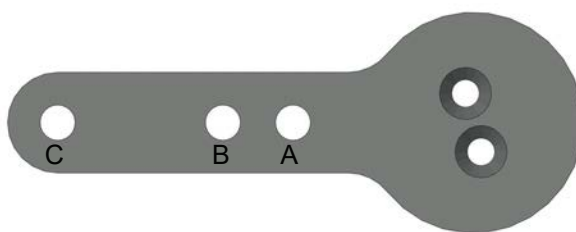
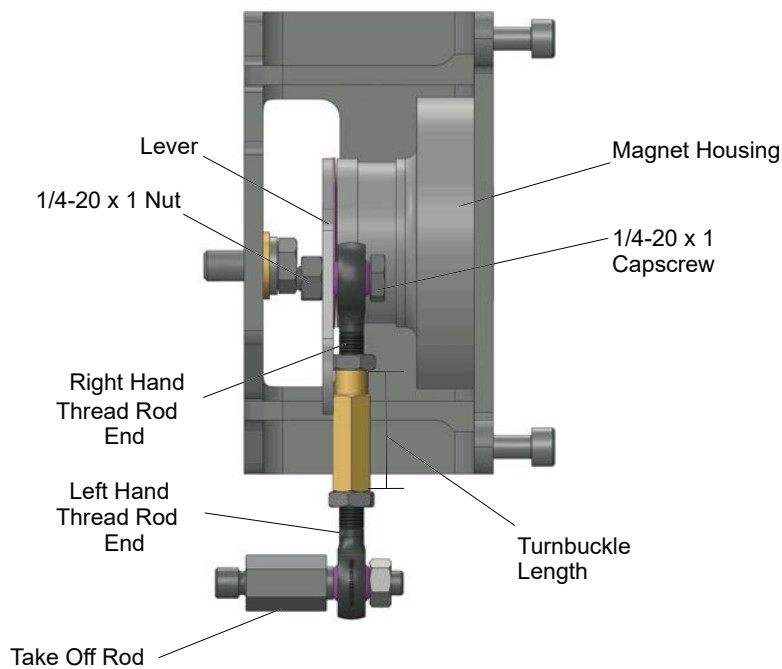

Figure 12 - Lever for Model 87/88 Multispring Actuator
Figure 13 - Reciprocating Linkage
4. Select mounting hole A, B, C or D for the stroke of the valve. For example, hole B is shown in Figure 12 for a size 10 actuator with 1.0" stroke.
6. Apply Loctite® and thread the take-off rod to the actuator stem connector (Figure 13). Ensure that the travel pointer located on the coupling is correctly positioned.
7. Attach the right hand threaded rod end to the lever using a 1/4 - 20 x 0.75" cap screw and nut as shown in Figure 13. The lever hole position to be used depends upon the specific valve stroke. Refer to Figure 12 and the Reciprocating Valve Linkage Selection, Table 3 on page 31.
9. Secure the magnet housing assembly, including the lever and right hand rod end, to the bracket with four M5 X 10 mm flat head screws using 5mm Hex Key (Figure 13).
11. Thread the turnbuckle onto the left hand threaded rod end. Refer to Figure 13.